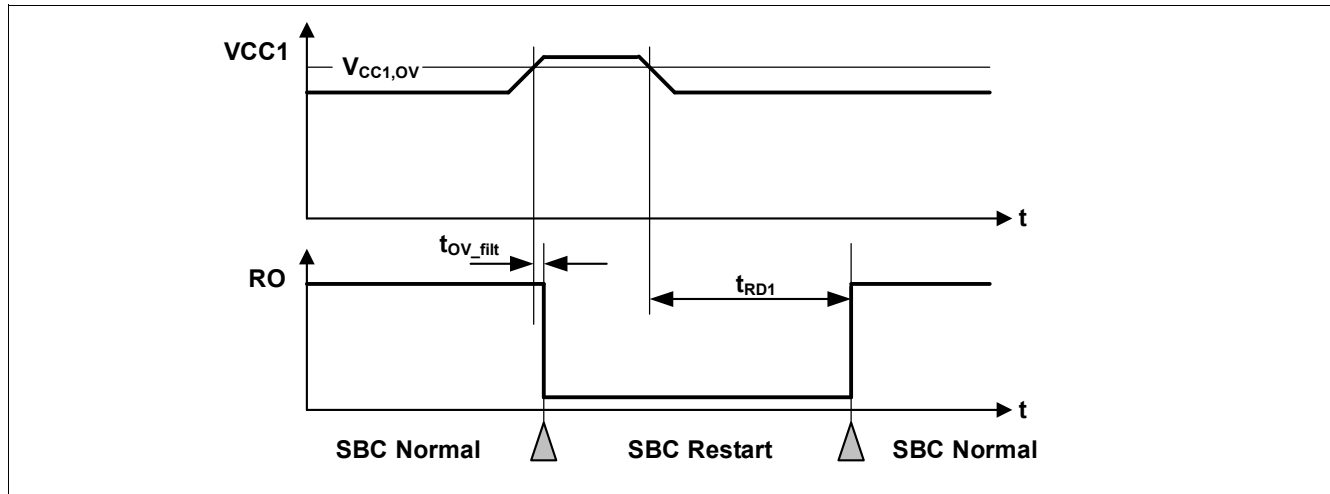

Figure 44 VCC1 Overvoltage Timing Diagram
- If the bit **VCC1_OV_RST** is set, SBC Restart Mode is entered. A reset event is generated. The SBC exits the SBC Restart Mode and SBC Normal Mode is resumed after the VCC1 over voltage is not present anymore (see also Figure 44).